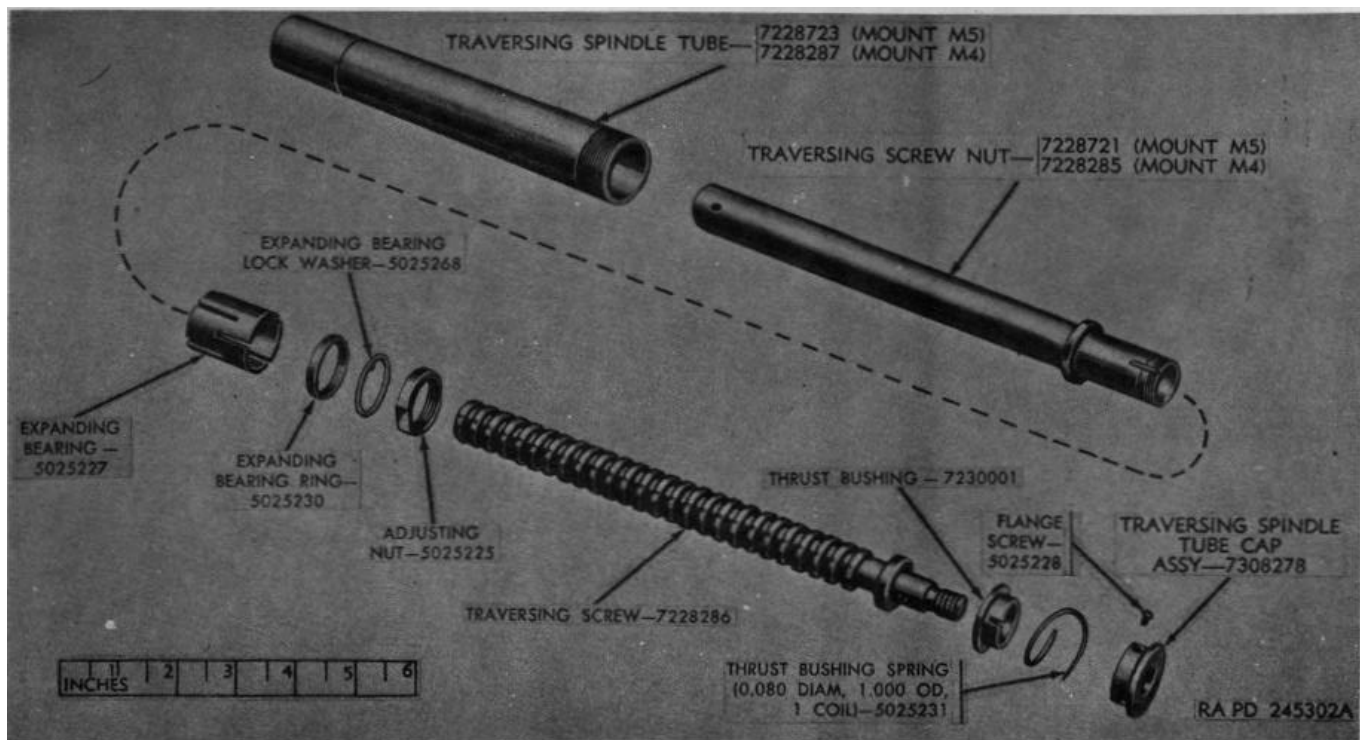
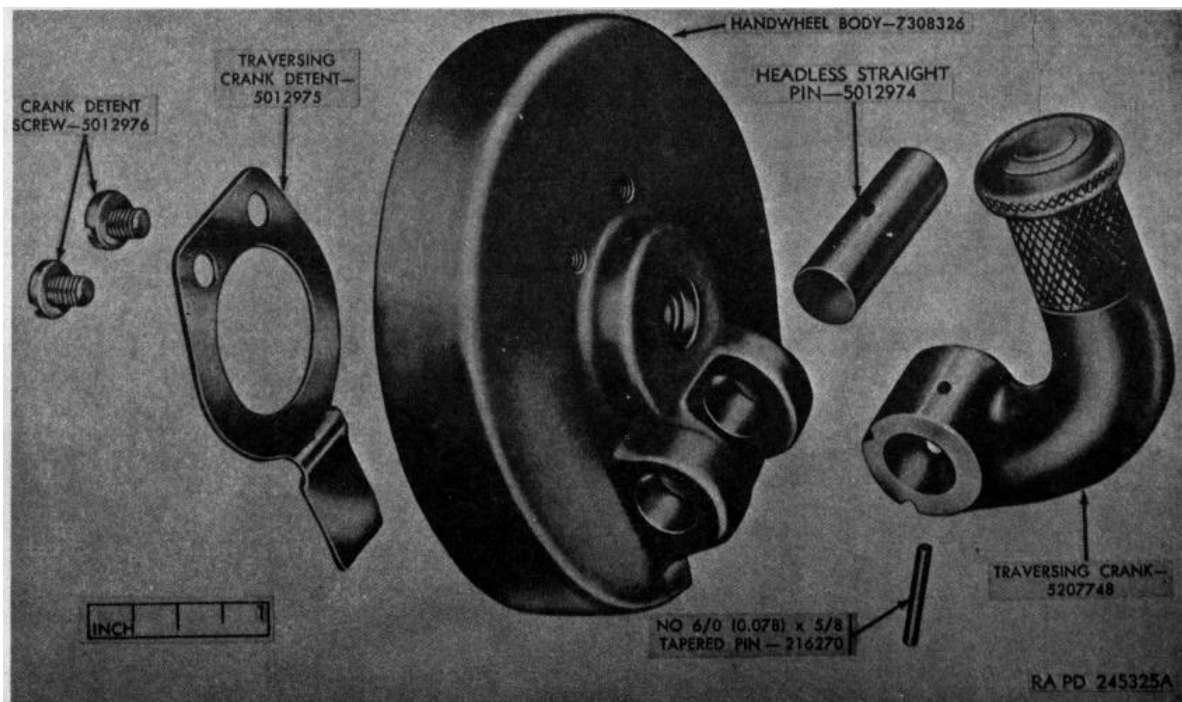

Figure 17. Traversing spindle assembly 7230151-exploded view.
Figure 18. Traversing handwheel assembly-60-mm mount M5, 81-mm mount M4.
d. To disassemble traversing spindle assembly, remove flange screw, unscrew traversing spindle tube cap assembly, and remove thrust bushing spring and thrust bushing (fig. 17).
e. Unscrew traversing screwnut from traversing screw (fig. 17). Remove the following, in order listed, from the traversing screwnut (fig. 17).
- (1) Adjusting nut.
- (2) Expanding bearing lockwasher.
- (3) Expanding bearing ring.
- (4) Expanding bearing.
f. To disassemble traversing handwheel assembly, remove two crank detent screws and traversing crank detent from handwheel body; then drive out tapered pin that retains the headless straight pin and remove pin and traversing crank (fig. 18).
a. To-assemble traversing handwheel assembly (fig. 18), secure traversing crank detent to the handwheel body with the two crank detent screws; then assemble traversing crank to handwheel body by means of the headless straight pin and drive in No. 6/0 (0.078) x 5/8 tapered pin.
b. Hold traversing screw in a vise with soft jaws. Place thrust bushing (flanged end leading) over screw and follow with thrust bushing spring (0.080 diam, 1.000 od, 1 coil) (fig. 17). Press the traversing spindle tube cap assembly down against spring, making certain the spring pin in the flange fits in the cut in the thrust bushing (fig. 17). Hold cap down in this position and screw the traversing handwheel assembly (A2) on the traversing screw until the holes in the screw and handwheel align and drive in No. 0 (0.156) x 1 tapered pin (A1) to secure handwheel to screw.
c. Assemble the following, in the order listed in (1) through (3) below, on the traversing screw nut (fig. 17).
- (1) Expanding bearing.
- (2) Expanding bearing ring (tapered end leading).
- (3) Expanding bearing lockwasher (stud leading and engaging slot of traversing screwnut).
- (4) Adjusting nut.
d. Screw traversing screwnut (assembled end leading) on traversing screw (fig. 17).
e. Screw traversing spindle tube into traversing spindle tube cap assembly until the holes in the tube and 'cap align and screw in the flange screw (fig. 17).
f. Pass the traversing spindle assembly (A3) through hole in the shock absorbers, mortar clamp end yoke assembly (A4), and the elevating mechanism group (J) (smaller opening leading).
g. Screw the traversing spindle tube nut assembly (C) into